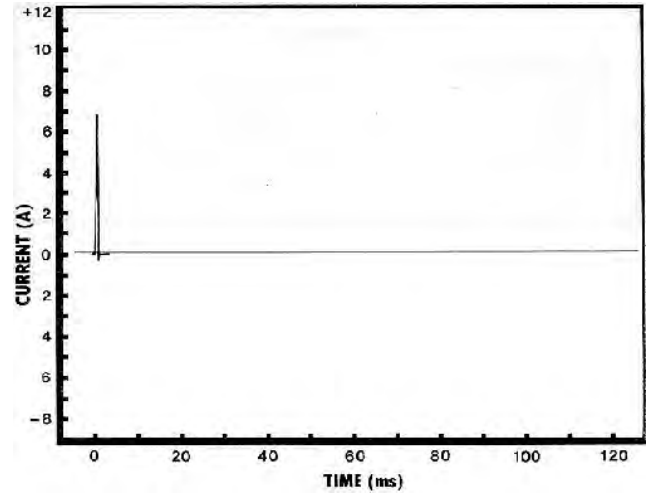

FIGURE 3. Current Delivered to a Well-Grounded Cow Touching a 5.4 km Well-Insulated Fence.
**Electrical Charge:** FIGURES 3 to 6 show the current output of the BEE 7721 when a cow touches 5.4 and 16 km (3.3 and 10 mi) lengths of well-insulated, single wire, fence. FIGURES 3 and 4 are for an animal resistance of 0.5 kΩ, which represent the most extreme condition of a cow standing in water and licking the charged